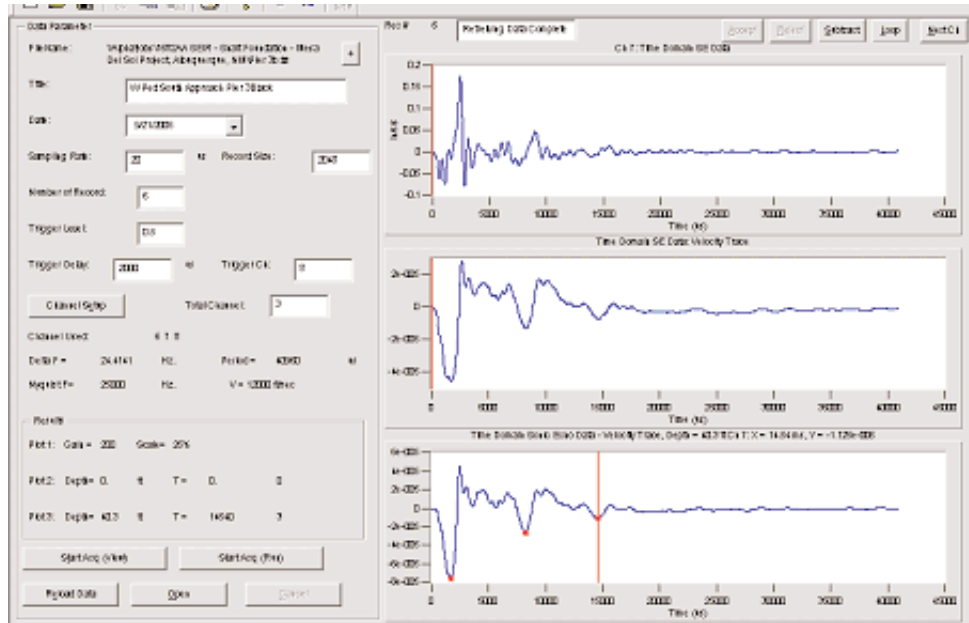

Figure 6: Acquisition software after one acquisition
1. Strike the impulse hammer against the surface of the shaft. A screen similar to figure 6 below should appear:
2. To view each channel select NEXT CHANNEL  in the top right corner of the screen. To see which channel is currently being displayed looked directly above the top plot as indicated in Figure 6.
3. Next, check data quality and if data is good (meaning reflections are visible as in Figure 6) click the  button.